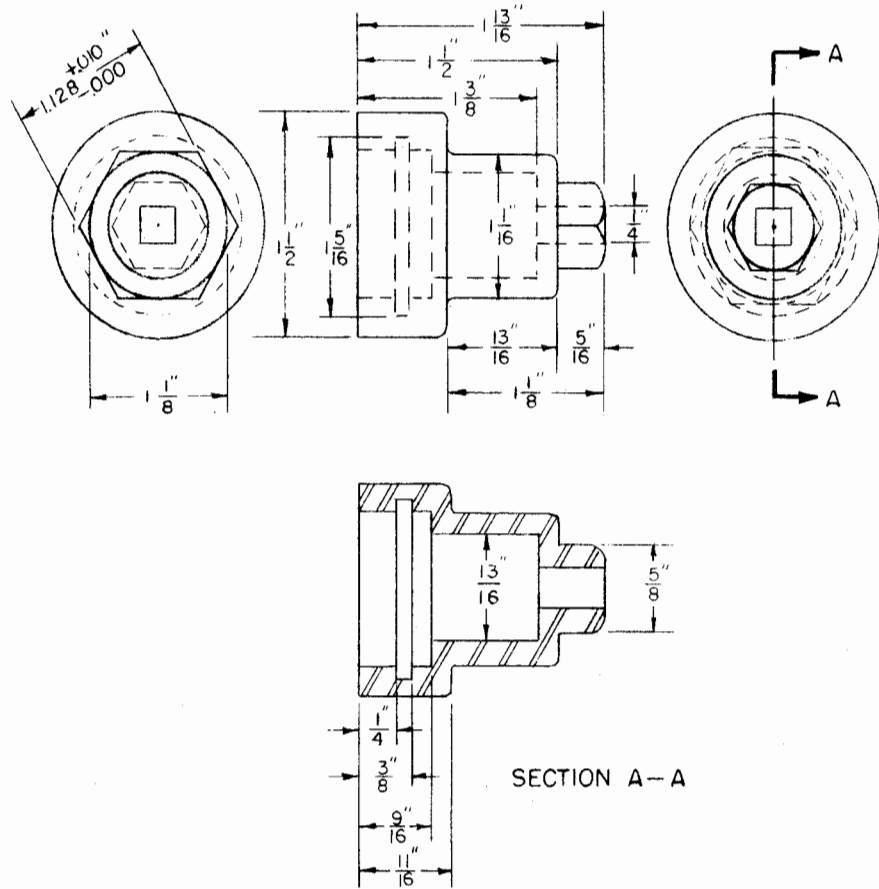

Figure 10-11. End Seal Socket Wrench
j. **END SEAL WRENCH.**- Figure 10-11 shows an end seal socket wrench which can be made up to ease the installation of Navy type 62111 end seals. Since the nut is almost as large as the opening into which the end seal must fit, wrenches cannot be used. Use of water pump pliers, or similar tools, often cause broken or damaged porcelain insulators. A socket wrench made up as shown in Figure 10-11 can be turned with a 1/4 inch drive socket until tight. Final tightening can be done with a 5/8 inch box wrench or an adjustable crescent wrench. Similar tools can be made up to ease installation of other fittings in places where lack of space limits the use of common tools.